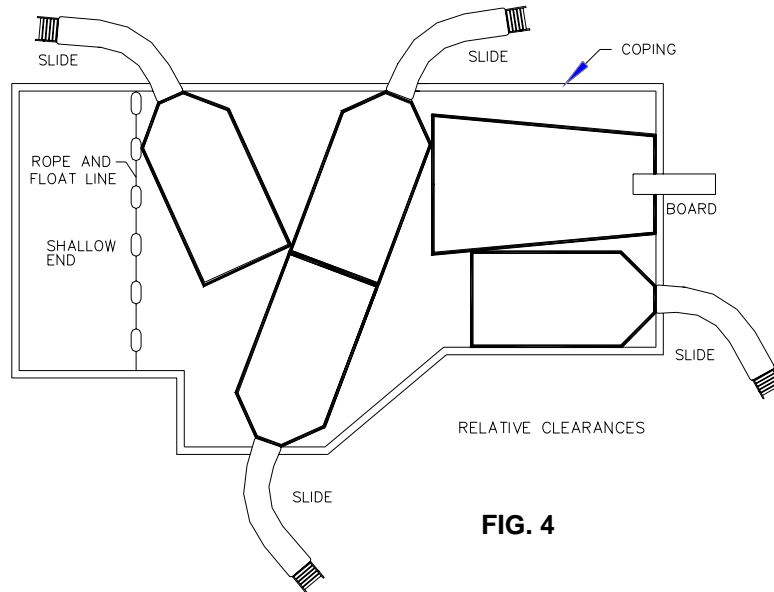

FIG. 4
C. The minimum clearance area of a slide or diving board shall not intersect any coping or rope and float line as shown in **FIG.4**. The minimum clearance area of a slide or diving board may intersect each other provided that they are not used simultaneously.